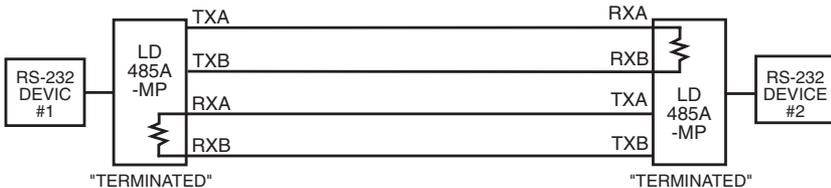
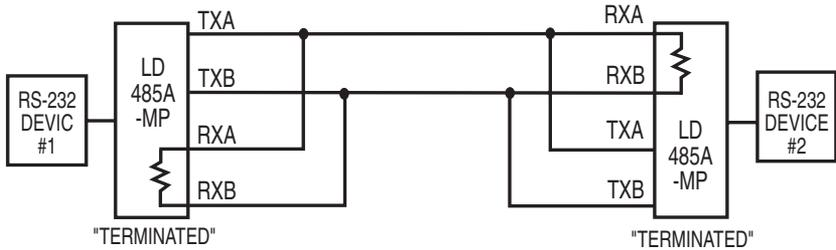
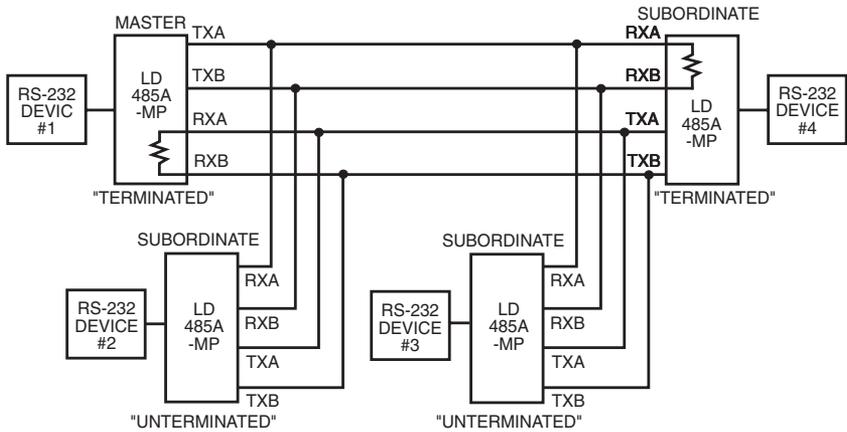
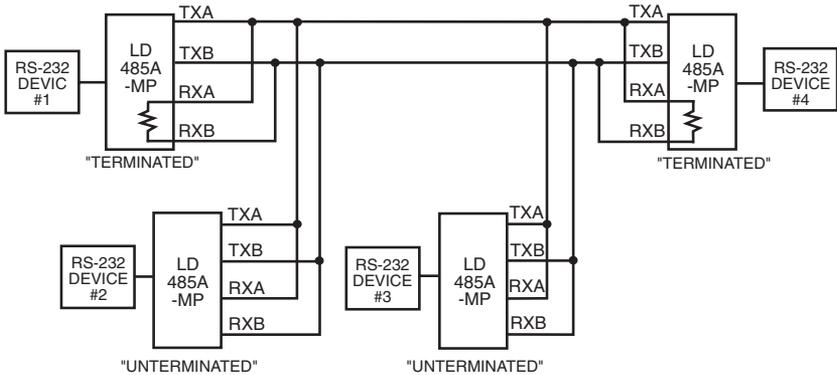

Figure 3-4. Point-to-Point, 4-Wire (Full- or Half-Duplex).
Figure 3-5. Point-to-Point, 2-Wire (Half-Duplex).
Figure 3-6. Multipoint, 4-Wire (Half- or Full-Duplex).
Figure 3-7. Multipoint, 2-Wire (Half-Duplex).
For multipoint applications, switch S2 should be in the “UNTERM” position on all the LD485A-MP devices in the network except for the two units at the extreme opposite locations on the line. The extreme opposite devices are the two devices that have the greatest cable length between them, which may not necessarily be the devices that are physically located the farthest apart. These two units should be set in the “TERM” position (see **Figures 3-4** and **3-5**). If any of the other LD485A-MPs were configured as “terminated,” the amount of distortion could increase—possibly causing errors in the data being transmitted.
Figure 3-4 shows a typical point-to-point, 4-wire, full or half duplex connection with both LD485A-MPs terminated by setting switch S2 to the TERM position. **Figure 3-5** shows a typical point-to-point, 2-wire, half duplex connection with both LD485A-MPs terminated by setting switch S2 to the TERM position.
Figure 3-5 shows a typical multipoint, 4-wire, full- or half-duplex connection. **Figure 3-6** shows a typical multipoint, 2-wire, half-duplex connection. In the multipoint applications depicted in **Figures 3-6** and **3-7**, the devices at the extreme opposite ends of the installation are terminated by setting switch S2 to the TERM position. These devices are the two devices that have the greatest cable length between them, not necessarily the devices that are physically located the farthest apart. (See **Figures 3-5** and **3-6**). A resistor shown in the circuit indicates that the termination resistor has been selected via switch S2. Please note that although **Figures 3-5** and **3-6** show only four LD485A-MP devices networked together, up to 64 units can be connected in the manner shown in **Figure 3-5**, and up to 32 units as shown in **Figure 3-6**.
In the following application, an industrial controller is used to gather information from several remote programmable logic controller (PLC) stations (see **Figure 3-5**). A system protocol has been defined such that all the programmable logic controllers receive the information sent by the industrial controller, but only the remote station specifically addressed will respond. In this system, the industrial controller and all the remote stations are DTE devices. The step-by-step installation procedure follows **Figure 3-7**.
5. Connect the LD485A-MPs together via a 4-wire twisted pair cable (see **Figure 3-6**).